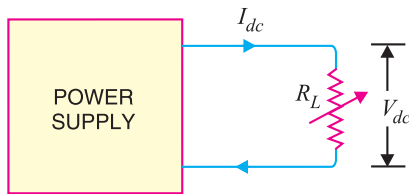

Fig. 17.2
- (i) **Voltage regulation.** The d.c. voltage available across the output terminals of a given power supply depends upon load current. If the load current I_{dc} is increased by decreasing R_L (See Fig. 17.2), there is greater voltage drop in the power supply and hence smaller d.c. output voltage will be available. Reverse will happen if the load current decreases. The variation of output voltage w.r.t. the amount of load current drawn from the power supply is known as *voltage regulation* and is expressed by the following relation :